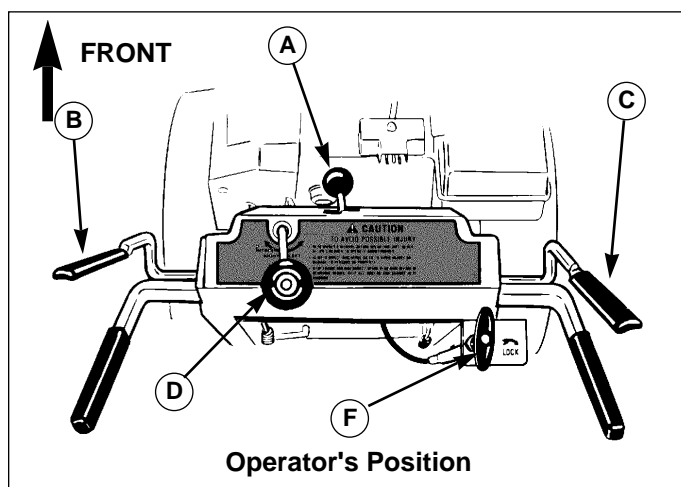

Figure 7. Operator's Control Position
3. Fully press and hold the Auger Engage Control (C, Figure 7) on the right-hand grip to begin auger rotation. Releasing the Auger Engage Control will disengage the auger —**unless the Free-Hand™ Control has been activated (See step 5 below).**
4. Fully press and hold the Traction & Free-Hand™ Control lever (B, Figure 7) on the left-hand grip to engage the traction drive and begin moving the snowthrower. To disengage the traction drive, completely release the lever.
6. Select forward or reverse speeds as needed using the Speed Selector (A, Figure 7). Release both control levers before changing drive speeds.
Use the Speed Selector (A, Figure 7) to control the drive speed of the snowthrower. There are five forward speeds and two reverse speeds.
To change speeds, release both control levers (B, Figure 7), then move the Speed Selector to the desired setting. Fully depress the control levers to resume.